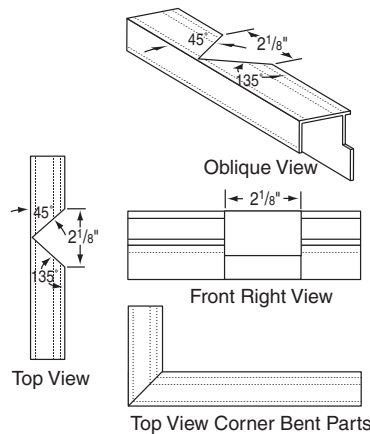

Figure 4
- ① Cut "L" Channel and bend (see Fig. 4).